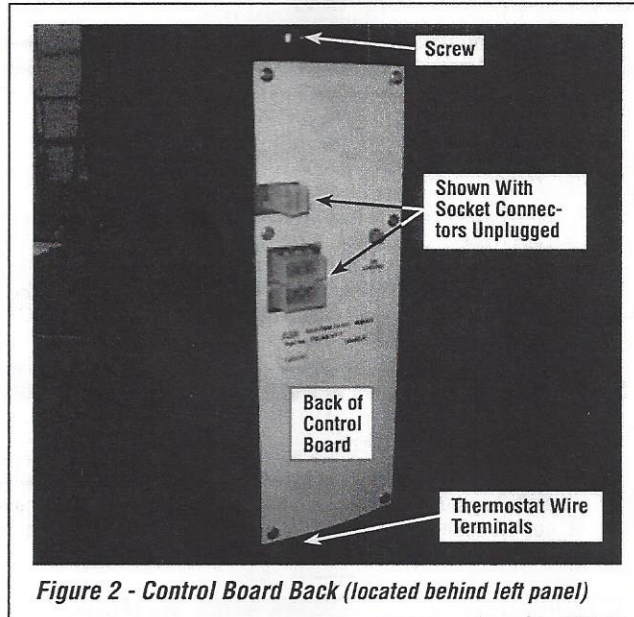

Figure 2 - Control Board Back (located behind left panel)
- 2) On the back of the control board, disconnect the upper and lower socket connectors by first pressing the locking catch that locks the male and female socket connectors together. While holding that locking catch down, pull the male connector from the female side connected to the control board. Then disconnect the two yellow thermostat wires running to the bottom of the control board by gently pulling down towards the bottom of the stove. See *Figures 2 and 3*.